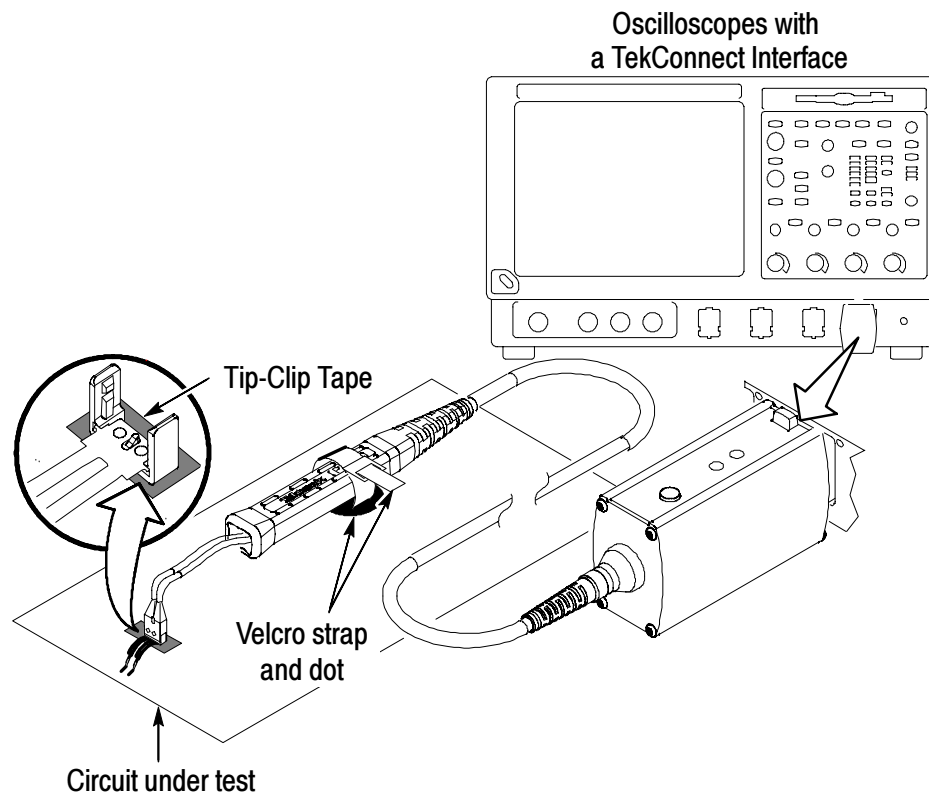

Figure 11: Connect to a circuit board
1. Attach the Tip-Clip Tape to the circuit board, then press the Tip-Clip Assembly to the tape. See Figure 11. Wait a moment for the adhesive to set.
- Avoid strain on the attachment wires. To avoid strain on the attachment wires, the HBW Tip-Clip should be attached to the circuit board with the Tip-Clip tape as shown in Figure 11 on page 15. The use of Velcro fastening straps and dots to anchor the probe body is also recommended.